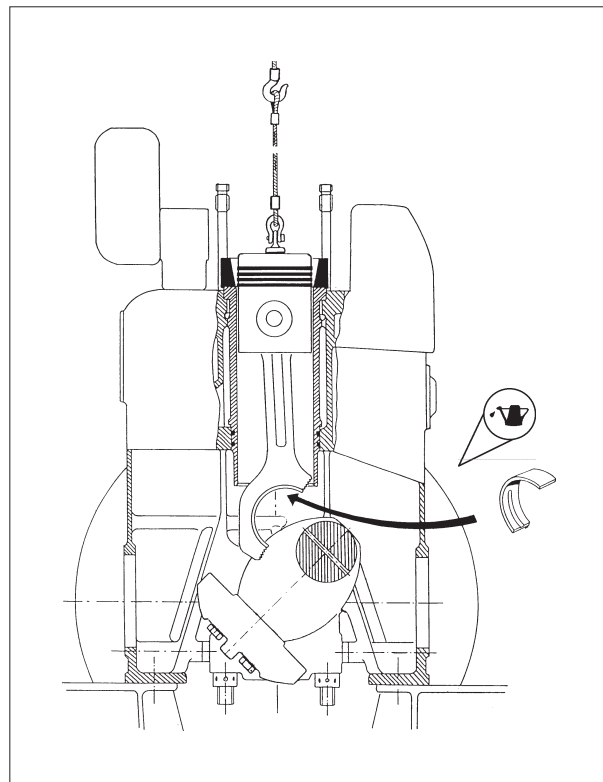

Fig 2.
- 6) Lower the piston further down, lubricate the ends of the bearing shells (*as in fig. 2*) with copaslip, molycote pasta or similar and mount the upper shell of the big-end bearing.